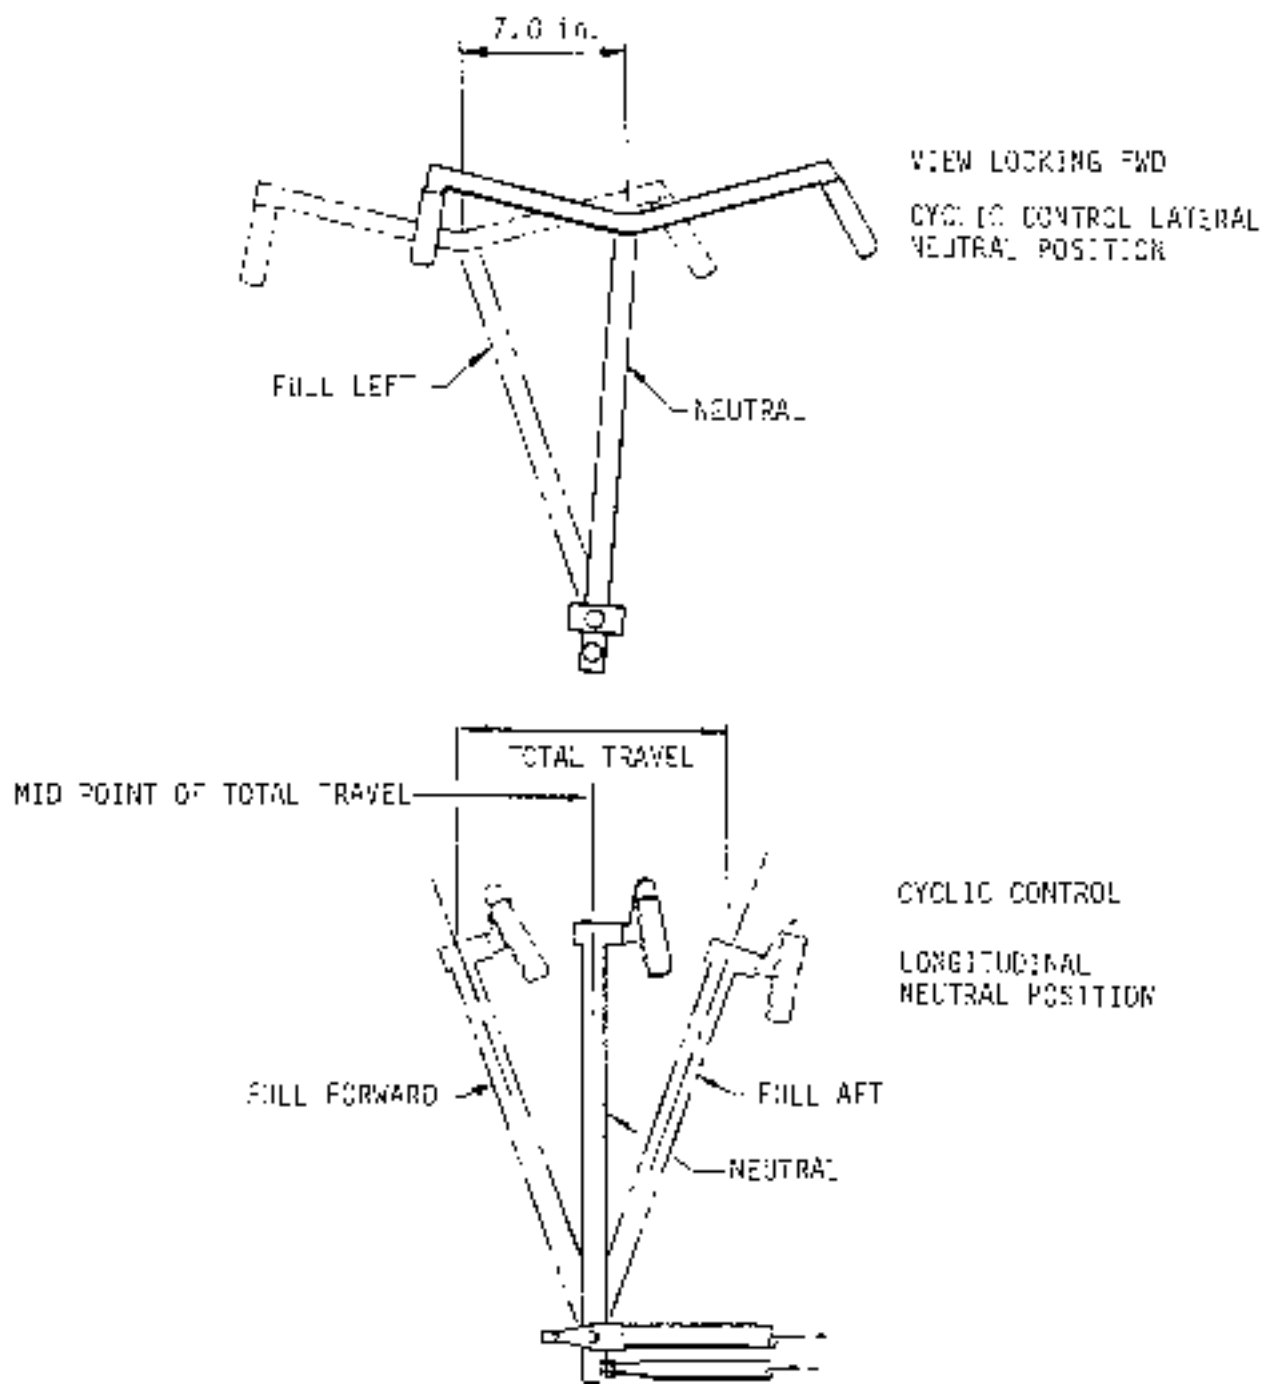

FIGURE 10-1 CYCLIC CONTROL STICK NEUTRAL POSITION
- a) Refer to Figure 10-1. Place cyclic control in neutral position. Cyclic neutral position is 7.0 inches to the right of full-left travel and at mid-point of total fore and aft travel or use MT559-1 rigging blocks. Place collective control full down.
- a) Place the cyclic control in the neutral position (see Figure 10-1). Place the collective control full down. Apply full cyclic and collective friction.